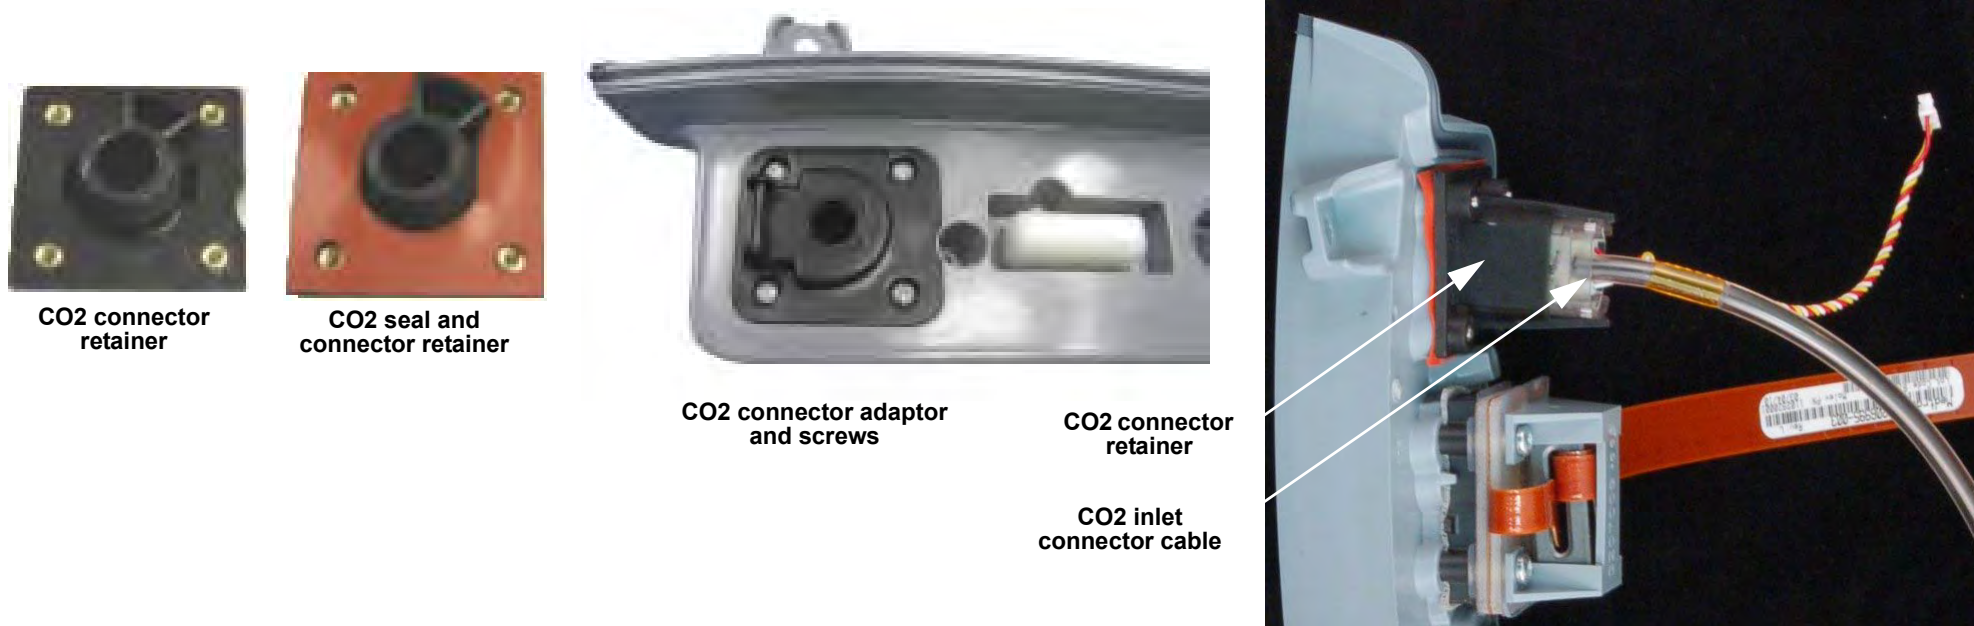

Figure 8.118—CO2 connector parts
6. Disengage the CO2 inlet connector cable from the CO2 connector retainer by spreading the arms of the retainer and sliding out the CO2 inlet connector body (see Figure 8.118 on p. 350). Discard the connector retainer clip.